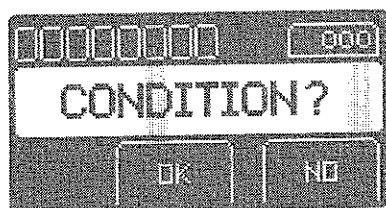

Figure 11 Condition Message
1. From the READY, CHARGING or the REPLACE message screen, press the MORE button. The CONDITION? message screen will appear (see figure 11).